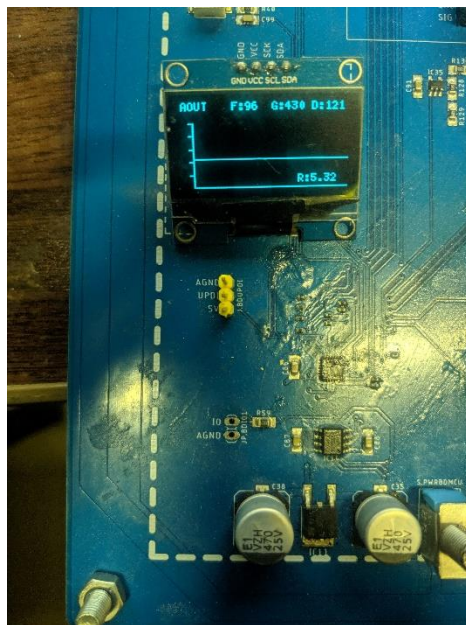

Fig: 2
I worked in an R&D center where, I was responsible for reverse engineering a pulse induction metal detector and improve its range and stability. After reverse engineering it, I designed it PCB on Eagle as shown in Fig (1). This detector was totally analog, after designing my own PCB and testing it, the stability and range of detector was similar to original. For improvement purposes what I did was added microcontroller attiny1617 removed all the timing ICs in this circuit to make it smaller and made firmware for it. The firmware consisted of producing 5 square waves with different timing, which needed to be controlled in real time using potentiometers, the potentiometers were used to control the frequency and duty cycle of waveforms (fig 2). Later I also added OLED display, when value of waveform is changed using potentiometer it showed on OLED, and I also made a menu for it so one can see what type of waveform occurs when metal comes near the detector's coil. The new board consisting of microcontroller, was not designed by me.